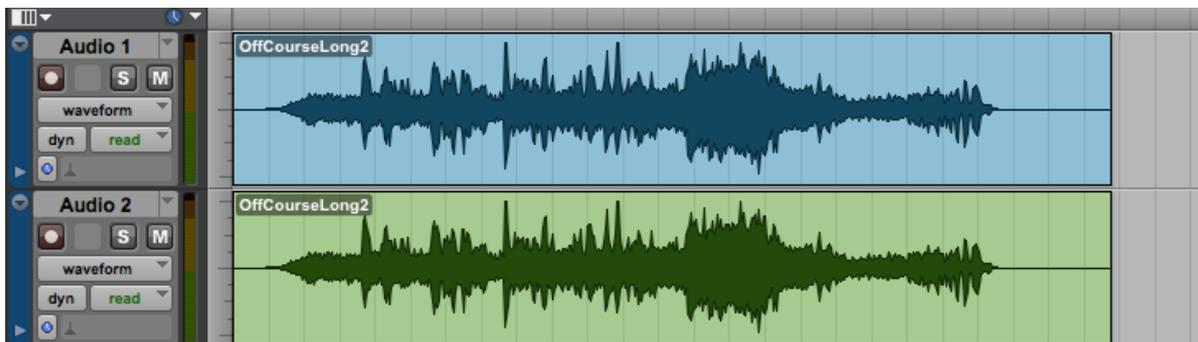

Figure 26 Pro Tools session display of Flash Cutter tutorial example
- The ‘Flash Cut Example 1 (T4)’ session, when opened in Pro Tools, looks as shown in Figure 26. It contains two continuous audio tracks named Audio 1 and Audio 2. The audio on the two tracks is the same, to reduce the file size of the examples. When preparing your own sessions for us with Flash Cutter, you may use any number of audio tracks up to the maximum total allowable in a Pro Tools session.